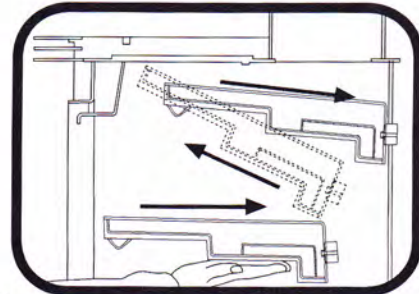

Fig. 10
- 6) To place the new baffle in its proper position, insert it into the firebox, in such a way that it rests on the support brackets installed specially for the baffle. Make sure that the baffle air pipe is inserted completely into the hole in the back of the firebox (Fig 10) and the bolts have gone through the holes to the outside of the firebox.